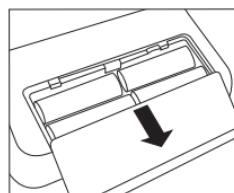

Fig.1
- Open the battery cover on the bottom of the monitor (see Fig. 1). Insert the batteries (see Chapter 13 Technical data). Ensure correct polarity ('+' and '-') when inserting batteries. Close the battery lid. **I2 h** or **24 h** flashes on the display. Set date and time as described below.